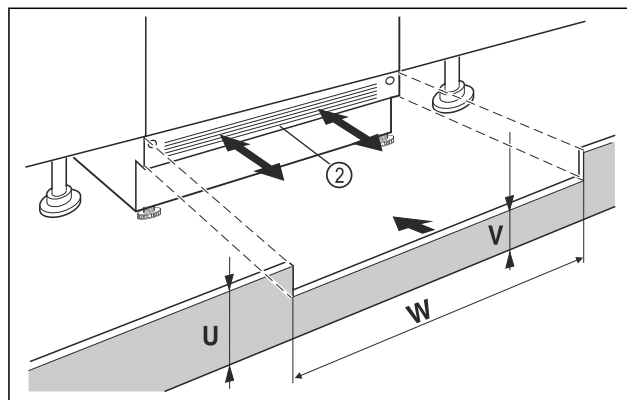

Fig. 40 Example illustration
- ▶ Put on the appliance base cover Fig. 40 (2) but do not fix it in place yet.
- ▶ If the base panel is visible Fig. 40 (2), pull it forwards so that the front edge of the ventilation grille and the unit base panel are level.
- ▶ If the base panel is concealed Fig. 40 (2), push it all the way back.
- ▶ Ensure that the ventilation slots are completely free: If necessary, cut the height of the unit base panel Fig. 40 (U) to size!
- ▶ Adjust the web height Fig. 40 (V) under the appliance base panel Fig. 40 (2) along the niche width Fig. 40 (W).